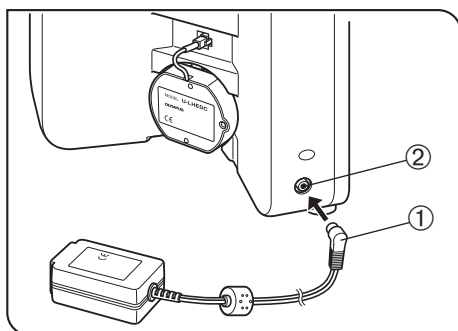

Fig. 52
- Make sure that the main switch is set to “○” (OFF) before connecting the power cord (Fig. 52).
1. Insert the connector ① of the AC adapter firmly into the connector ② on the microscope.